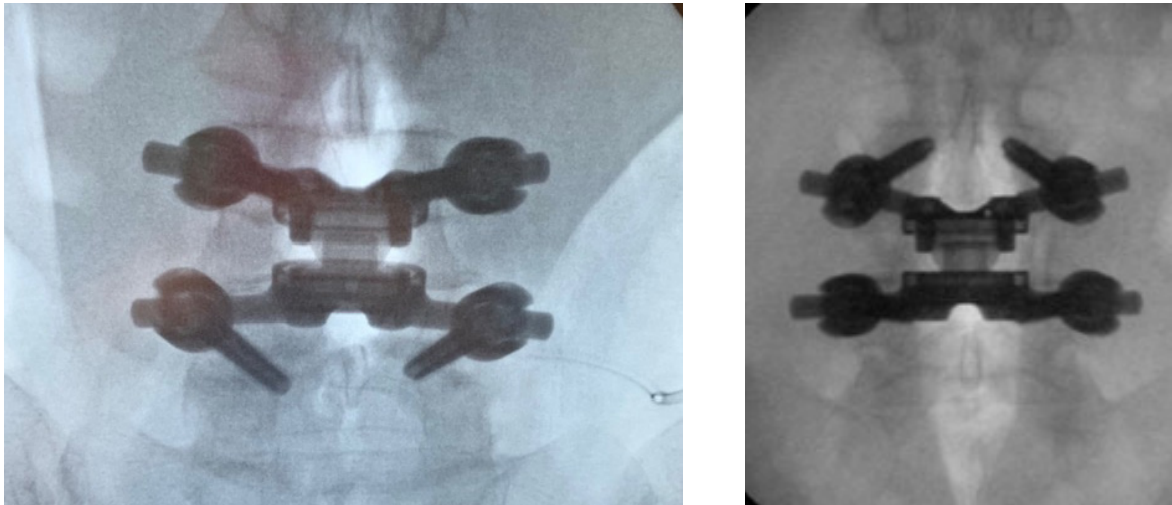

Figure 46: Anteroposterior view of two TOPS Motion Implants relative to the superior spinous process
- iv. Medialize the TOPS Motion Implant relative to the superior spinous process (**Figure 46**)